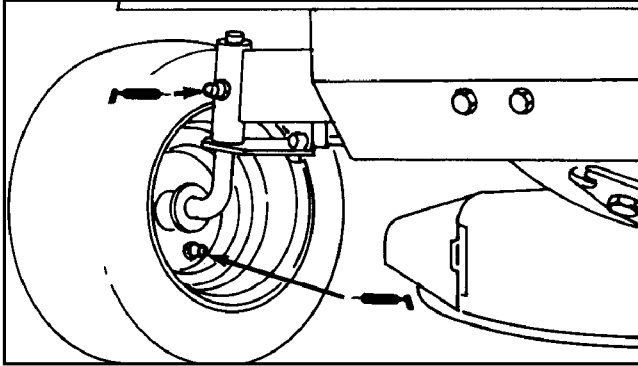

Figure 11
1. Wipe (4) grease fittings on the spindles and wheels (Fig. 11) with a clean rag. If there is paint on the front of the fittings, scrape it off.
2. Lubricate both axle spindles w/No. 2 general purpose grease (Fig. 11). Continue to pump grease until it oozes out the spindle. Wipe up any excess grease.
3. Lubricate both front wheels w/No. 2 general purpose grease (Fig. 11). Pump the grease gun until grease oozes. Wipe up any excess grease.